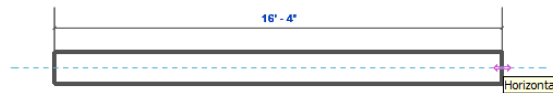

Figure 3-32 Sketching a horizontal wall segment
- Move the cursor on the horizontal axis such that a dashed line appears at the central axis of the wall segment, as shown in Figure 3-32. Notice the two-sided arrow attached to the endpoint of the wall. This indicates that the wall segment being sketched is horizontal. A tooltip indicating the horizontal alignment is also displayed with two-sided arrow.